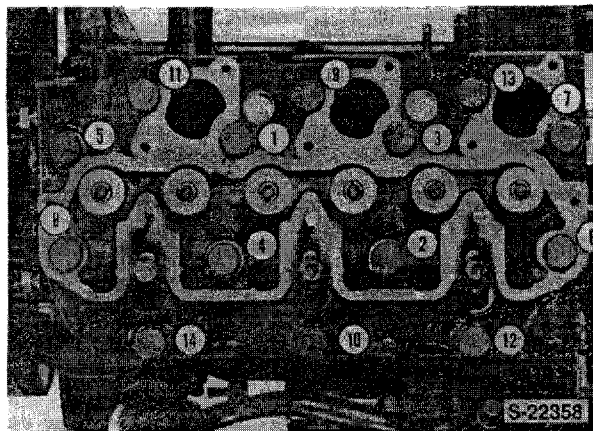

Figure 29
4. Tighten the cylinder head bolts in steps in the sequence as shown, Figure 29. Tighten to the final torque specification.